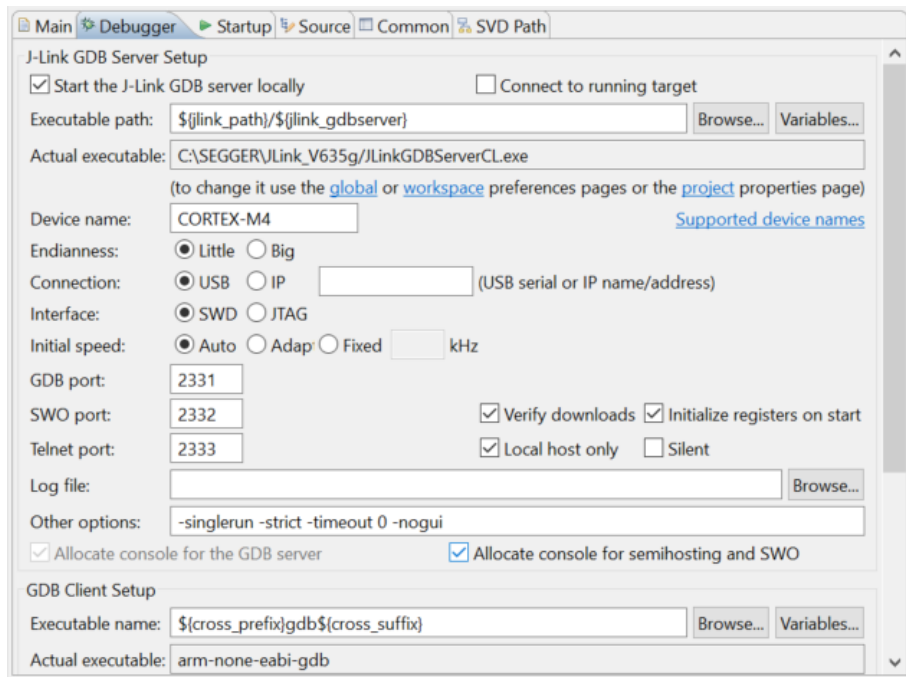

Figure 14 J-Link Debugger Configurations
5. Click on the **Debug** icon and select **Debug Configurations**. Double click on the **GDB SEGGER J-Link Debugging** and then ensure the **Debugger** tabs has the following settings (Figure 14). Apply the changes.